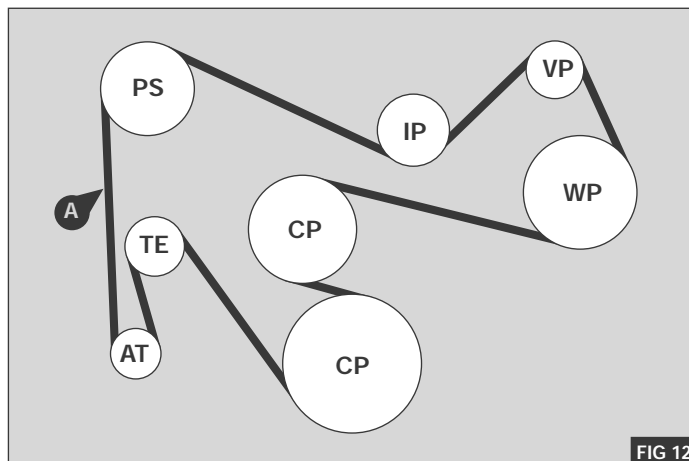

FIG 12
1. Refit the original manufacturers drive belt  previously removed to the engine in the same configuration and in accordance with the original manufacturers design detailed in - Fig 12